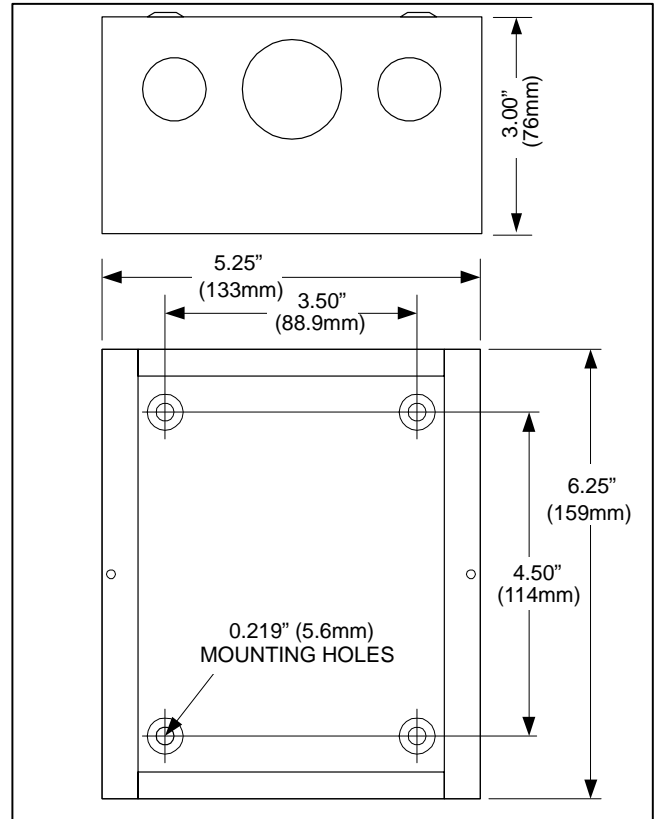

FIGURE 3. ENCLOSURE FOOTPRINT
3. Locate the desired location on wall. Using the enclosure as a template, mark the required holes. (Figure 3) Before cutting or drilling, make sure no wiring, plumbing or gas lines run behind the wall. Attach mounting brackets to annunciator using the screws provided.